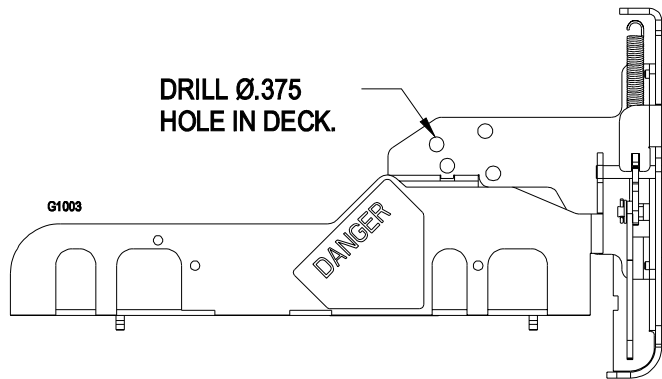
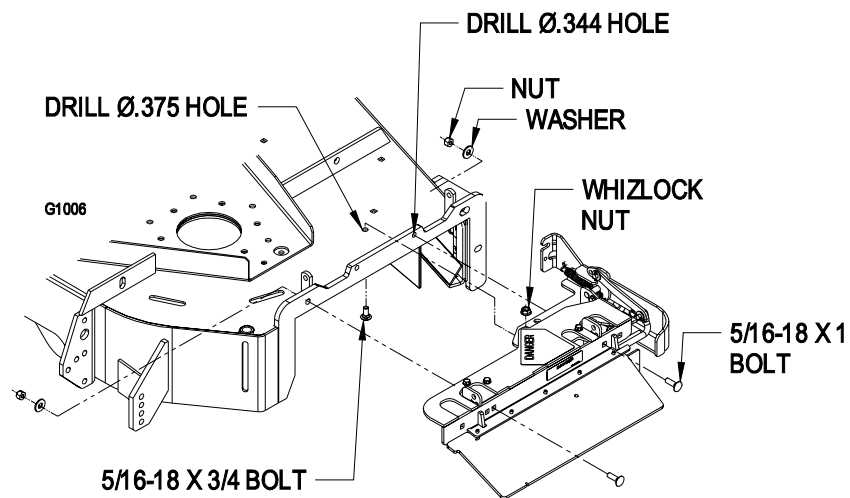

FIGURE 11B
FIGURE 11C
- b) Locate the correct mounting hole as shown in Figure 11B. Drill holes in deck as shown in Figure 11C. Install the two 5/16-18 x 1 bolts (item 13) and fasten to the deck with washer (item 6) and nyloc nut (item 2). Install 5/16-18 x 3/4 bolt (item 18) from the bottom of the deck, and draw up into hole using the whizlock nut (item 7).